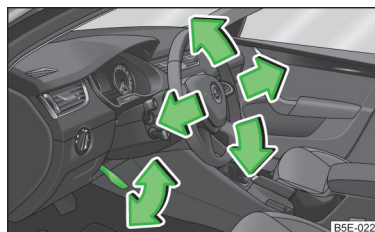

Fig. 114
- Swivel the lever underneath the steering wheel downwards » Fig. 114.